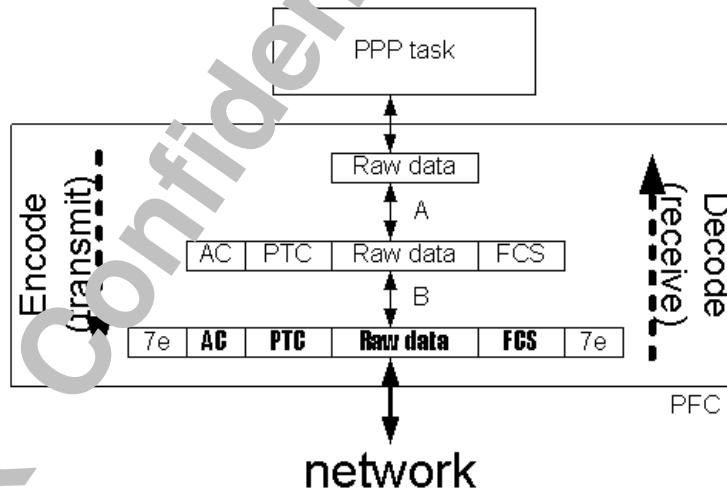

Figure 63 Basic PFC Flow
When a PPP task wants to transmit a set of raw data through the network, the data must be encoded first (Figure 63). In process A, the raw data is prefixed with an Address (0xff) and Control (0x03) field* (AC), followed by Protocol field** (PTC). An FCS is appended***.